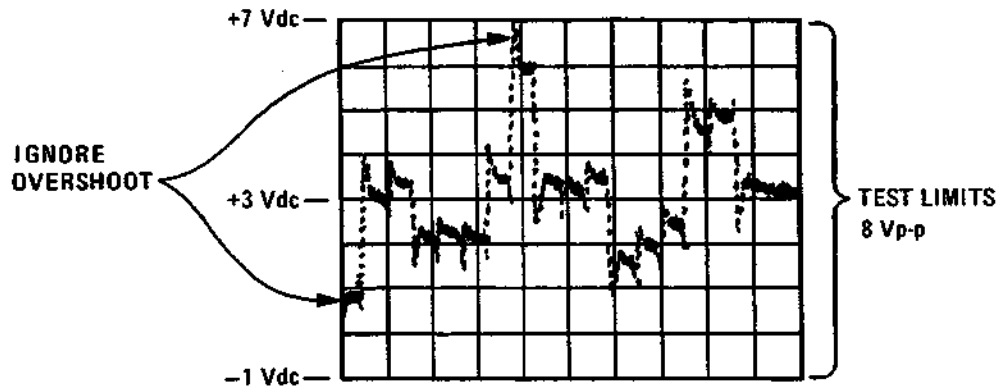

Figure 5-8. FN Loop Error Voltage (Time Base = 1 ms, Vertical Sensitivity = 1V)
3. Adjust the PRETUNE OFFSET, A5A5R53, so that the peak-to-peak FN Loop error voltage varies symmetrically around a +3 Vdc offset. Refer to Figure 5-8.